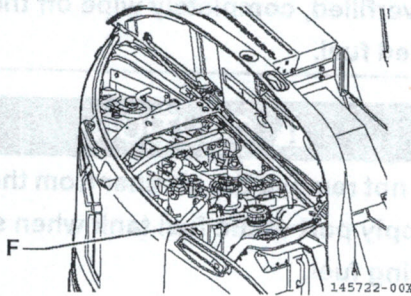
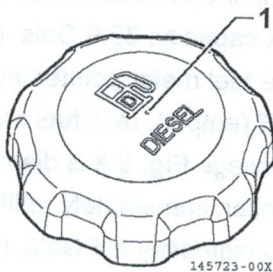

Fig. 3-9
Fig. 3-10
3. Open the front cover (right) and then supply port cap (Fig. 3-9, F), and supply fuel to the fuel supply port.
4. After supplying fuel, fully close the supply port cap (Fig. 3-9, F) and close the front cover (right).
Clogging the breather (Fig. 3-9, F) of fuel supply port cap (Fig. 3-10, 1) may cause the pressure in the fuel tank to decrease, resulting in stoppage of fuel supply to the engine. If the fuel supply port cap is contaminated, clean the cap.